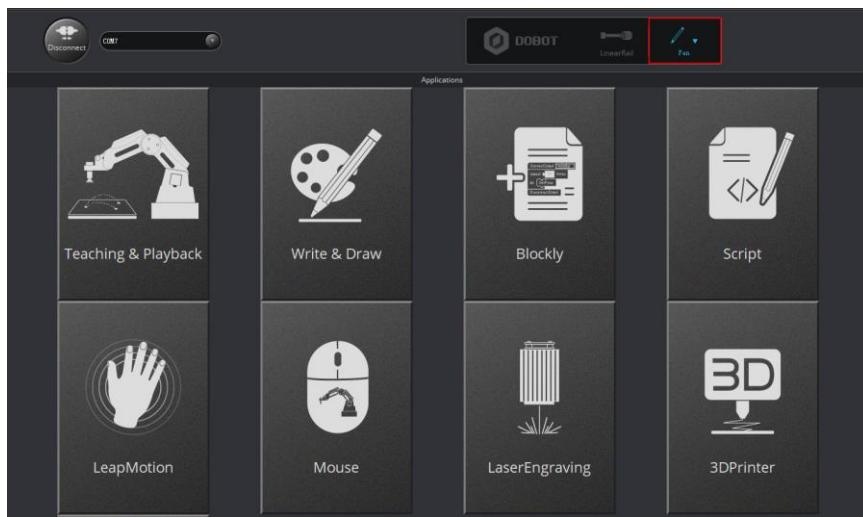

Figure 5.43 Choose Pen as the end-effector
**Step 4** Choose **Pen** as the end-effector on the **Write & Draw** page, as shown in Figure 5.43.